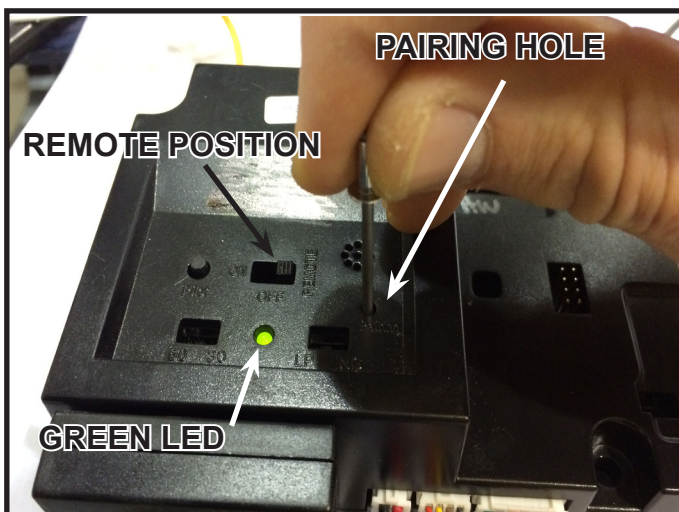

Figure 7. Pairing IFT-ECM
2. Locate the pairing hole on the IFT-ECM. See Figure 7. Using a paper clip or similar item, press and release the pairing button. The IFT-ECM will “beep” once and the green LED will blink for 14 seconds. During the 14 seconds, it is normal for accessories such as lights or fan to energize momentarily.